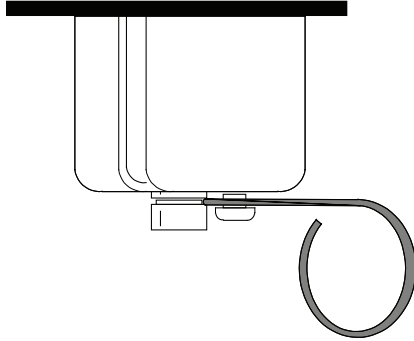

Figure 12 Insulation cup installed over detector fitting
- 4 In the oven, place the cup over the detector fitting so that the top of the cup is directly against the top of the oven. (See Figure 12.)